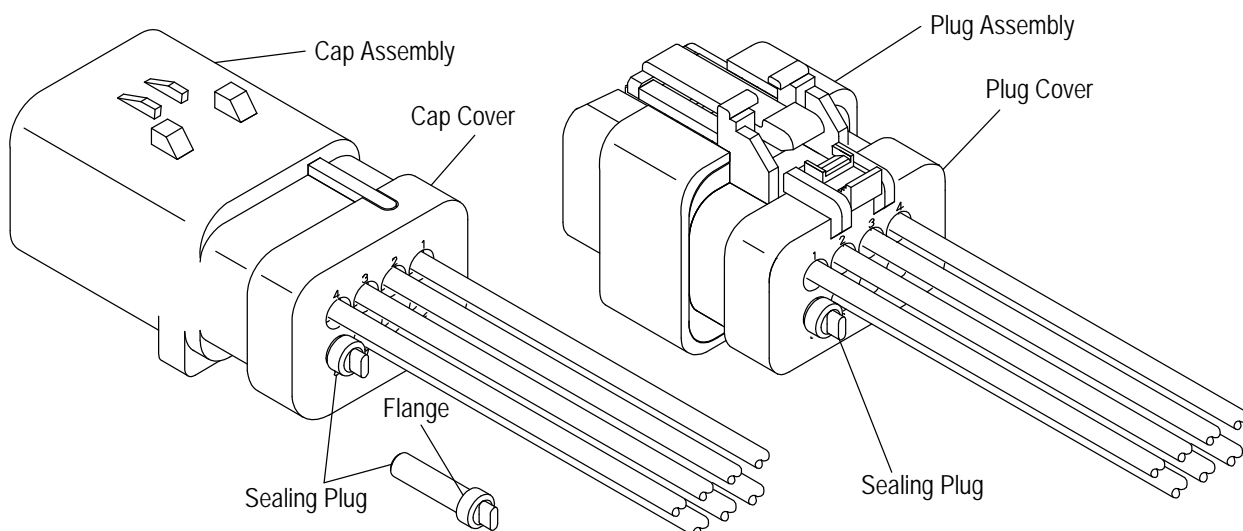

Figure 5
5. Place a sealing plug, (part number 776363-1 for SDWS and RDWS), into any circuits not loaded with contacts. The sealing plug should be pushed into the wire entry end of the plug or cap cover until the flange on the sealing plug is firmly against the seal cover. See Figure 5.